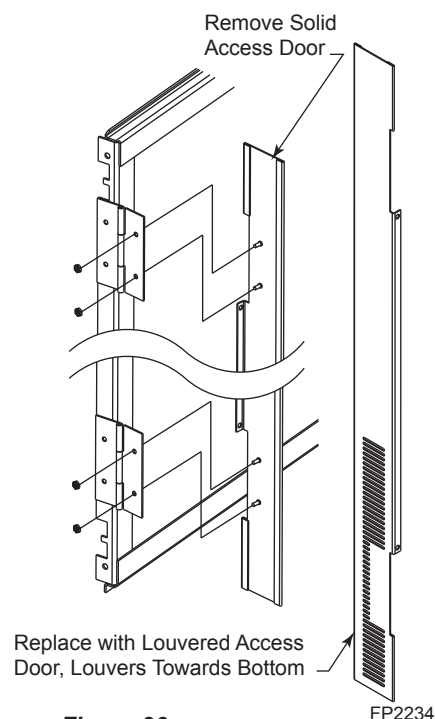

**Figure 36 -
14. Replace side panels attached to the glass frame assembly with the louvered side panels provided with the blower kit by unfastening the four nuts for each cover door. (Do not overtighten or stud may break off.) Use three metal clip screws provided with kit to secure the wire assembly in the front beneath the access cover. *Figure 36*